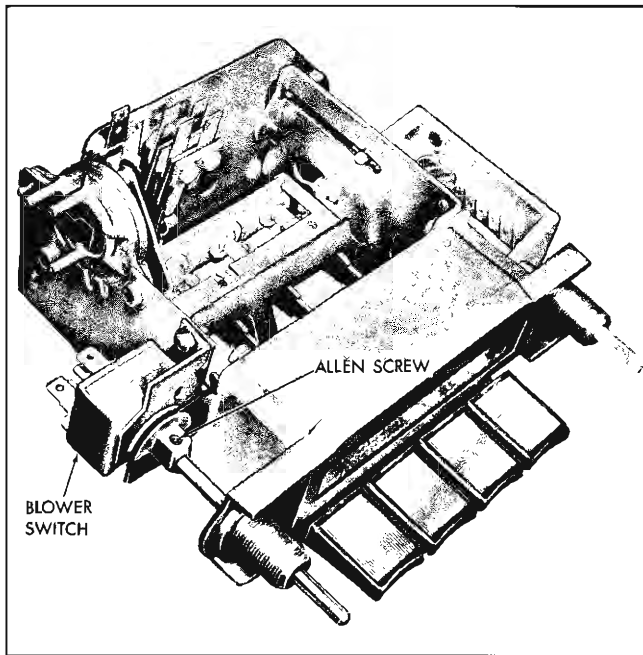

Fig. 12-5 Blower Control Switch Adjustment
3. Loosen allen screw retaining blower speed indicator to switch shaft (Fig. 12-5).
**NOTE:** To adjust switch, turn to full counterclockwise (OFF) position. Loosen allen screw and move blower speed indicator until "OFF" is centered in window and tighten allen screw (Fig. 12-5).